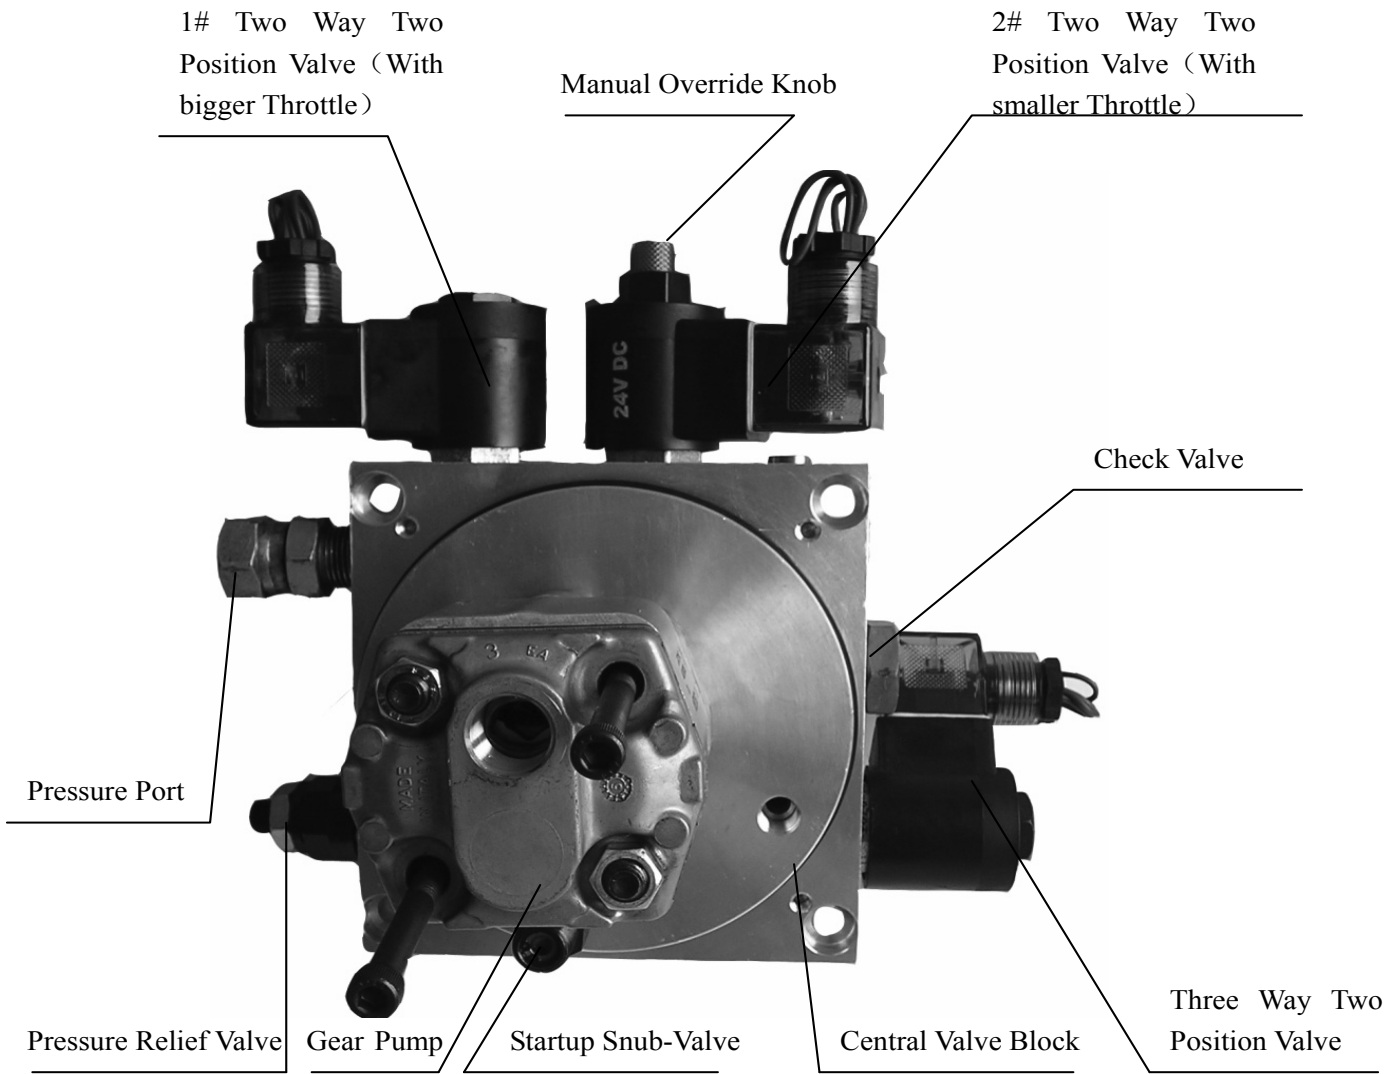

Fig.20
- b) Another possible problem is that the pump valve leaks inside. If the carriage can be elevated without load, and can not with load, but does not slide down, it means there is some problem with the circuit, which controls the rising of the lift, you can try replacing the pressure relief valve or three way two position valve; if the carriage can be elevated without load, but can not with load, even slide down, it means there is some problem with the circuit, which controls the descending of the lift, you can try replacing the 1# two way two position valve or 2# two way two position valve or check valve; You can also replace the pump totally. The pump valves are as the following fig. 20: